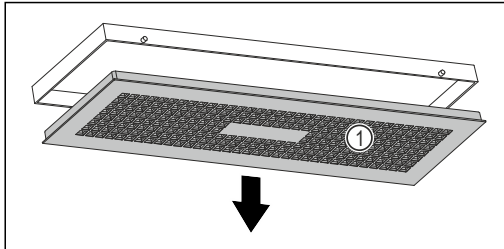

Fig. 100
- ▶ Slowly turn the water box down while holding the cover Fig. 100 (1).
- ▶ Remove the cover Fig. 100 (1).